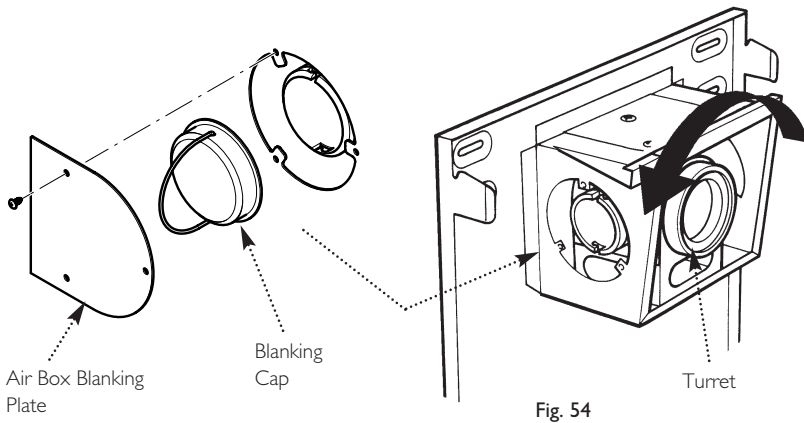
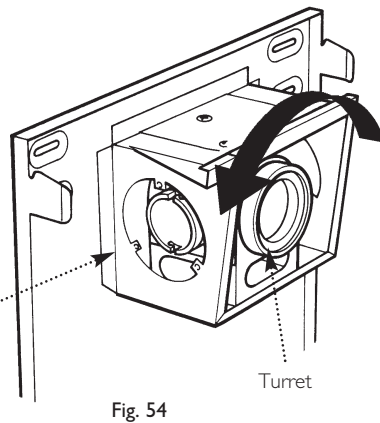

Fig. 53
Fig. 54
1. Remove the left or right hand air box blanking plate, as appropriate, from the back plate air box by releasing the three screws (Fig 53).
2. Rotate the turret to face the selected opening (Fig 54) and remove the side blanking cap by pushing in and turning anti-clockwise to release the bayonet fitting (Fig 53).